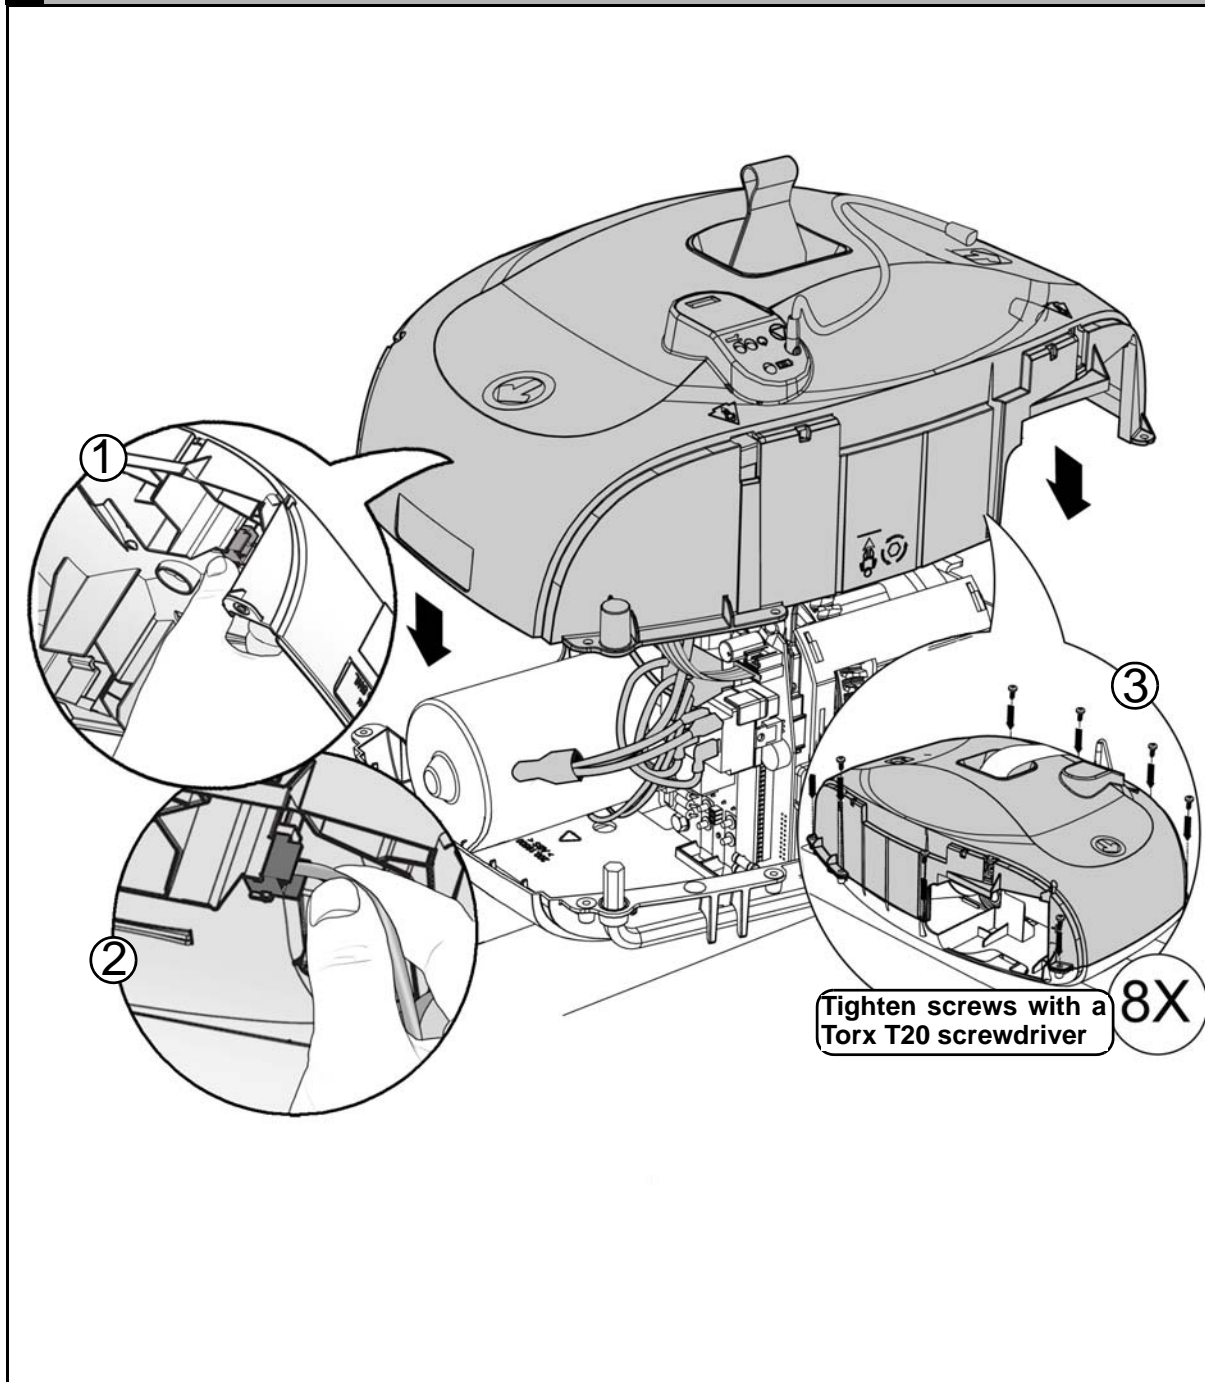
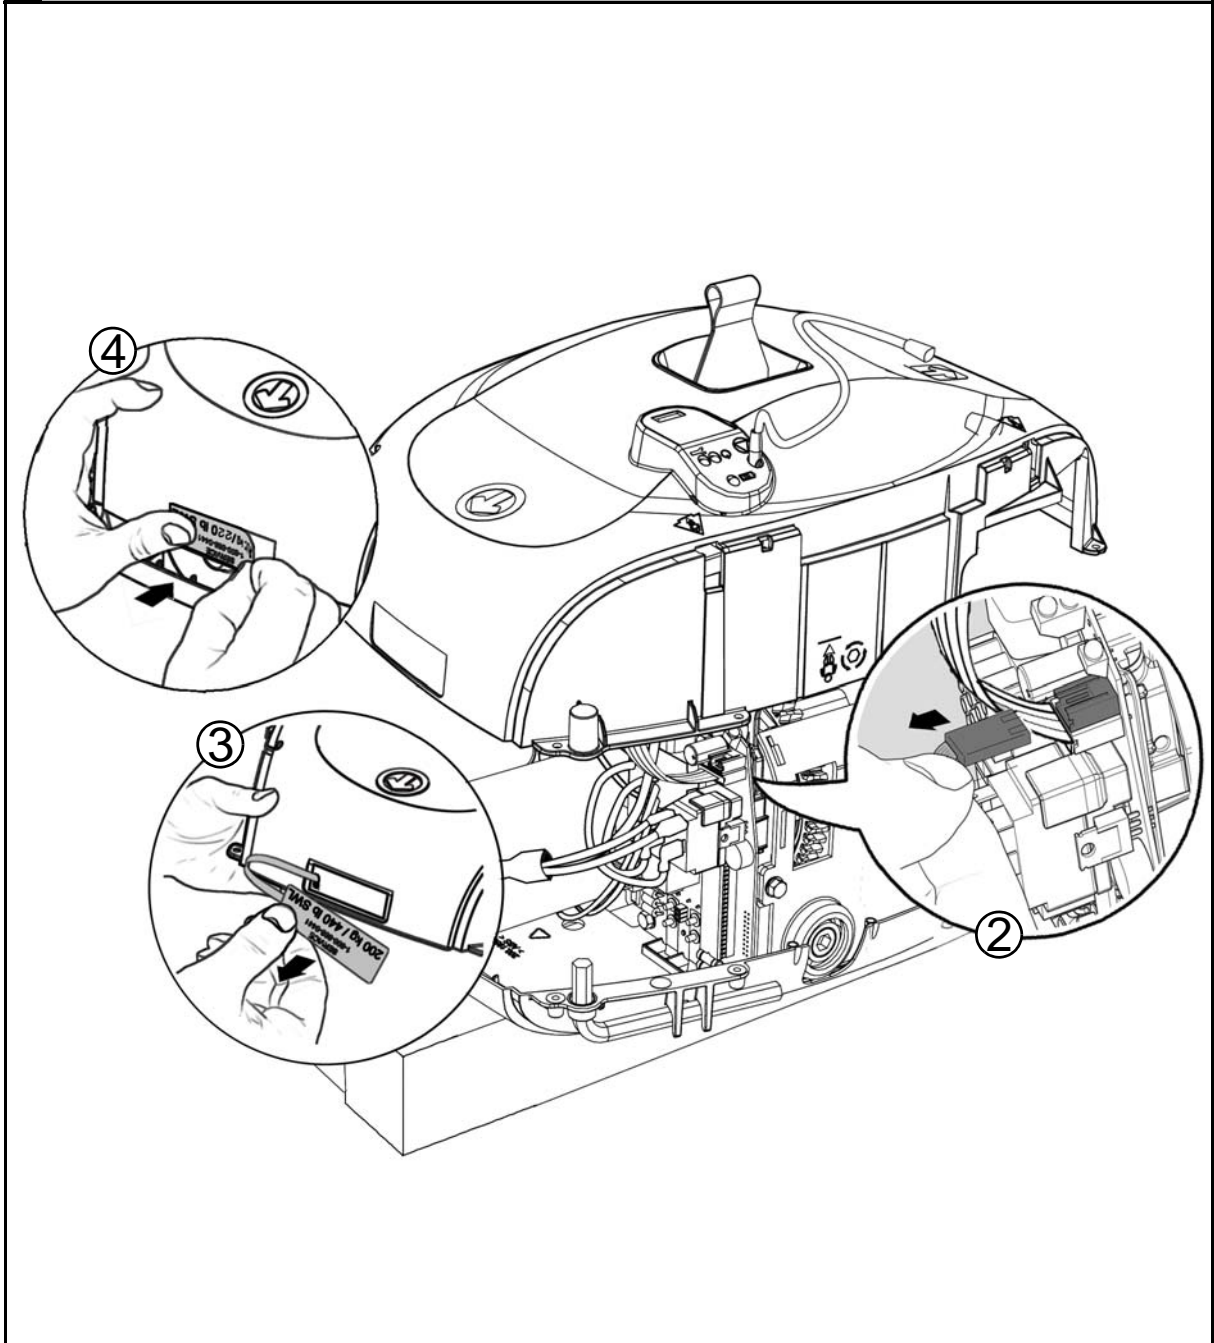

Fig. 35
Fig. 36
- ② Disconnect the **200 kg** SWL key (see Fig. 36).
- ③ Remove the key label off the plastic housing. Cut the key to ensure that it will not be re-used.
- ④ Apply the **100 kg** SWL label (001.19510) on the top plastic housing.
- ⑤ Re-assemble the unit, refer to steps in Fig. 35, Fig. 13, Fig. 14 and Fig. 15.